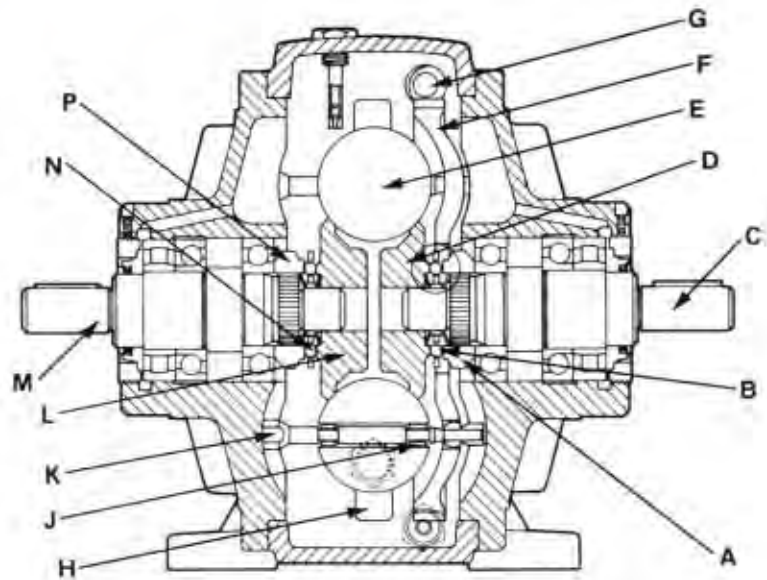

Figure 1
The sectional illustration (Fig. 1) is of a typical Variator, the principle of which is common to all sizes. The outer casing consists of a body and two end covers accurately aligned and dowelled in position. The co-axial input and output drive shafts are mounted in identical bearing assemblies and rotate in the same direction. Power is transmitted from the input drive shaft (C) through a disc (A) splined on to the shaft. Via a pressure device (B) it passes to the input drive cone (D) and thence to a series of drive balls (E) mounted on ball spindles (K) which incorporate two sets of needle roller bearings (J). The ball spindles are located at each end in radial slots in the end covers, passing through a series of cam shaped slots in an iris plate (F) which can be rotated by the control worm (G). This movement tilts the axes of the drive balls and produces the speed variation.